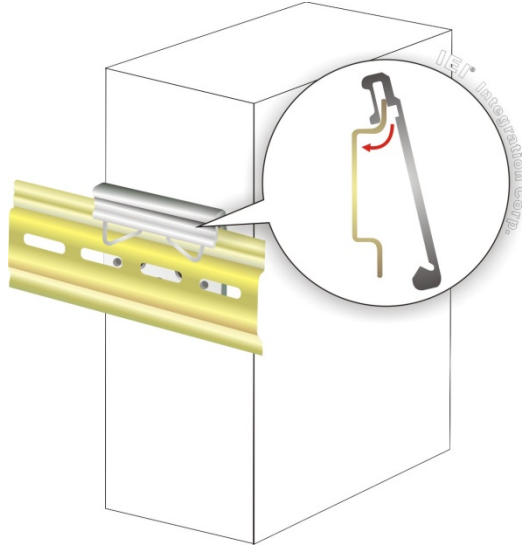

Figure 3-27: Attach the Mounting Bracket to the DIN Rail
Step 2: Attach the upper edge of the mounting bracket to the DIN rail as shown in **Figure 3-27**.